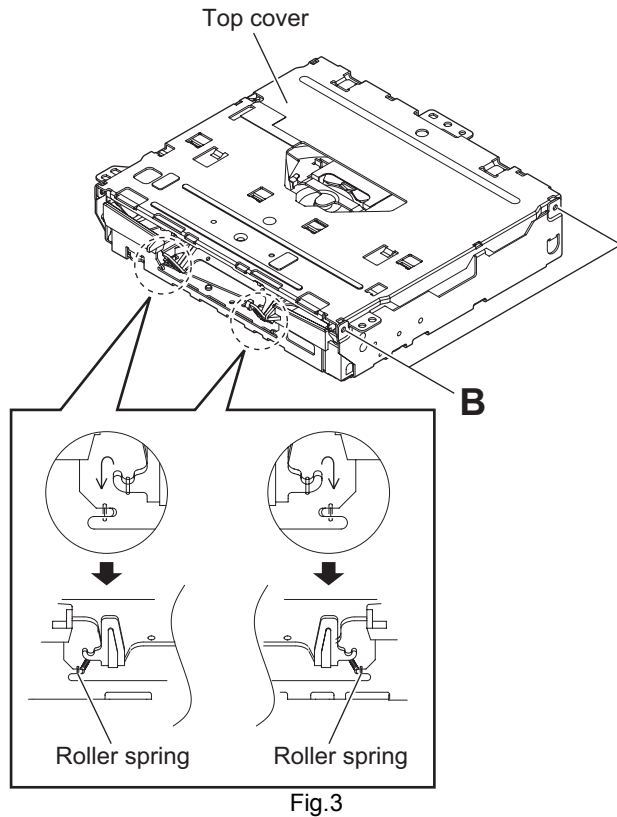

Fig.3
3.2.2 Removing the top cover (See Fig.3 to 5)
- From the front side of the CD MECHANISM assembly, change the hook position of the two roller springs. (See Fig.3.)
- From the side of the CD MECHANISM assembly, remove the six screws **B** attaching the top cover. (See Fig.3 and 4.)